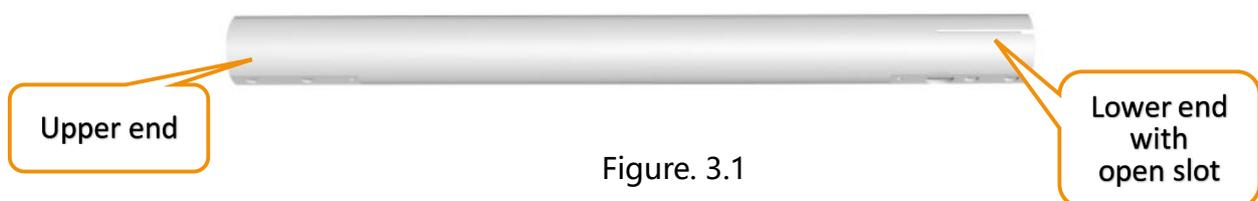

Figure. 3.1
① Distinguish the upper end and lower end of the extension tube. The one with an open slot is the lower end of the extension tube, vice versa the upper end (see Figure 3.1)